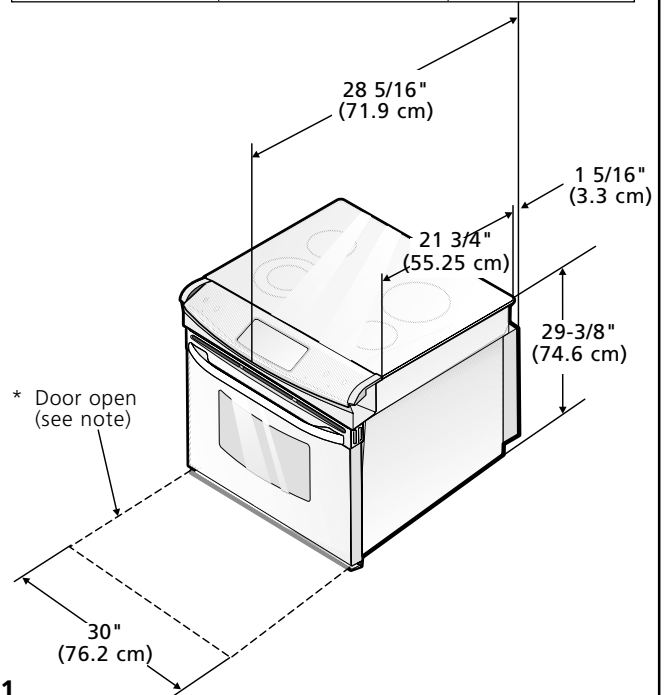

Figure 1
Connect the appliance cable to the junction box through the U.L.-listed conduit connector. Complete electrical connection according to local codes and ordinances. (For preferred junction box location, see Figure 1.)
- Cut countertop exactly as shown in Figure 1. Shave raised edge level to clear 31 1/2" (81 cm) wide rim on rolled edge styled countertops.
- This range may be equipped with an anti-tip bracket attached to the back of the range with two screws. If countertop thickness is greater than 1/2" (1.3 cm), relocate anti-tip bracket to the lower position 1/4" (6.4 mm) below (see Figure 1).